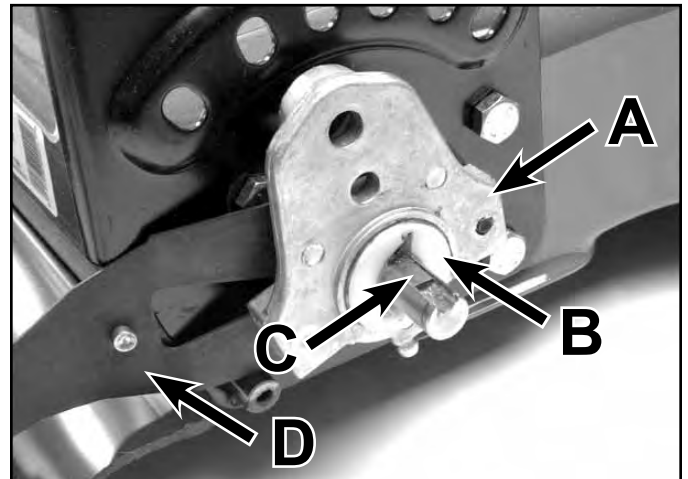

Fig 171
4. Assemble the spring arm and pivot arm as shown in Figure 171.
6. If removed, install a new O-ring in the innermost groove 2-1/4" (5.7cm) in from the end on each output shaft, making sure that it is fully seated in the groove. Refer to Figure 171 above. Not all models use an O-ring.